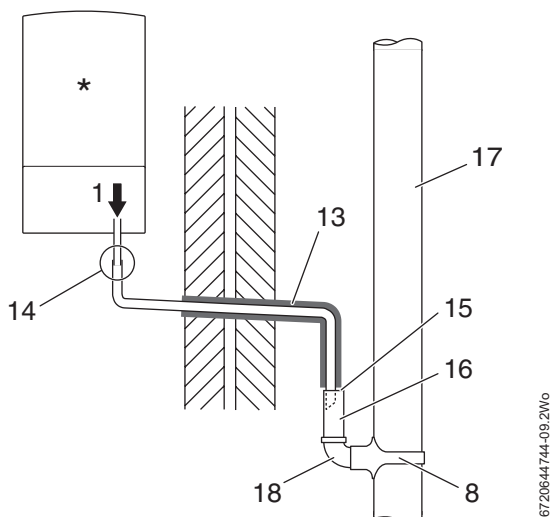

Fig. 12 Disposal into a rainwater down pipe
- Refer to figure 12 when a rain water down pipe is used to dispose of condensate.